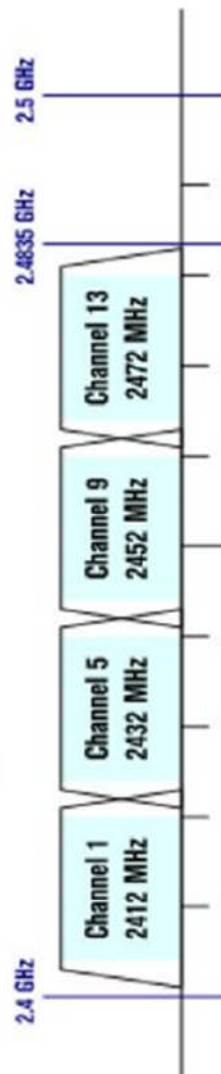

Figure 2
- iii. During a match, one team will operate on channel 1 and the other team will operate on channel 11. See Figure 2. These channels will be monitored during the competition by NASA to assure there are no other teams transmitting on the assigned team frequency.